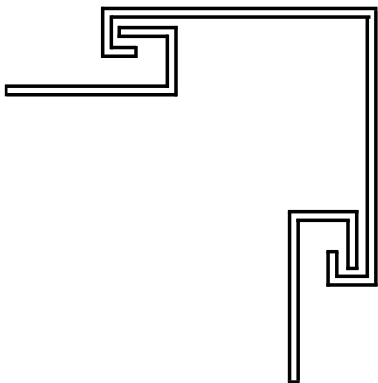

FIGURE 29
- Assemble the Corner Post, by locking a piece of J-Channel into each side (**FIG 29**).